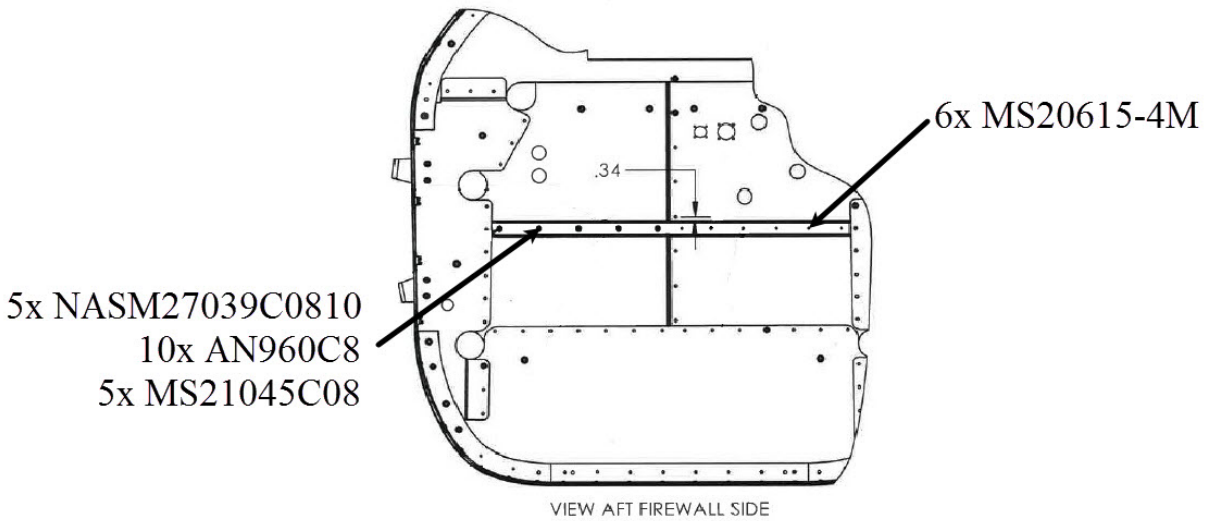

Figure 68-5
- Install stiffener on AFT surface of firewall panel using hardware shown in Figure 68-5.